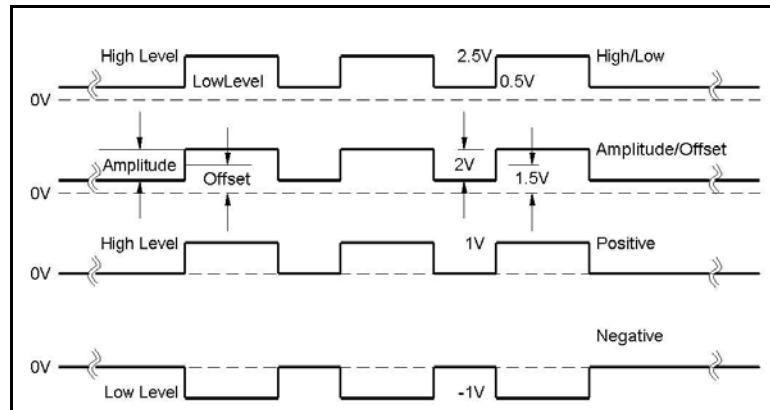

Figure 3-54, Amplitude Level Modes Options
Using the **WX2182** as your pulse source, you have four options to set up the pulse levels, as shown in Figure 3-54 and explained below:
1. **High/Low Levels.** This is the default option. Using this mode, you can program the high and the low levels directly, while allowing the instrument to set the internal amplitude and offset according to your selection. The maximum amplitude that can be programmed is 2 V peak-to-peak. To achieve this level, program the low level to -1 V and the high level to +1 V. Note that although the specified maximum peak-to-peak amplitude is 2 Vp-p, the high and low level can not exceed the  $\pm 2.5$  V rail limits. Also note that the amplitude level is specified when the pulse is applied on a  $50\Omega$  load impedance. The only way to exceed the peak-to-peak rail limitation is by increasing the load impedance, but then expect degradation of the pulse shape. The example in Figure 3-54 shows the high level set at 2.5 V and the low level set at 0.5 V and therefore, the resulting peak-to-peak level is 2 V.
2. **Amplitude/Offset.** This option allows separate modification of the amplitude and the offset. This option is very useful when you want to vary the vertical position of the pulse, but hold the peak-to-peak amplitude level fixed. The example in Figure 3-54 shows the amplitude set at 2.5 V and the low level set at 1.5 V and therefore, the resulting waveform is exactly as was programmed in the high/low level programming example.
3. **Positive.** This option is very useful when you want to vary the positive position of the pulse, but hold the low level fixed at the 0 V level. The example in Figure 3-54 shows the high level set at 1 V and the low level fixed at 0 V. Modification of the high level will not alter the low level position.
4. **Negative.** This option is very useful when you want to vary the negative position of the pulse, but hold the high level fixed at the 0 V level. The example in Figure 3-54 shows the low level set at -1 V and the high level fixed at 0 V. Modification of the low level will not alter the high level position.